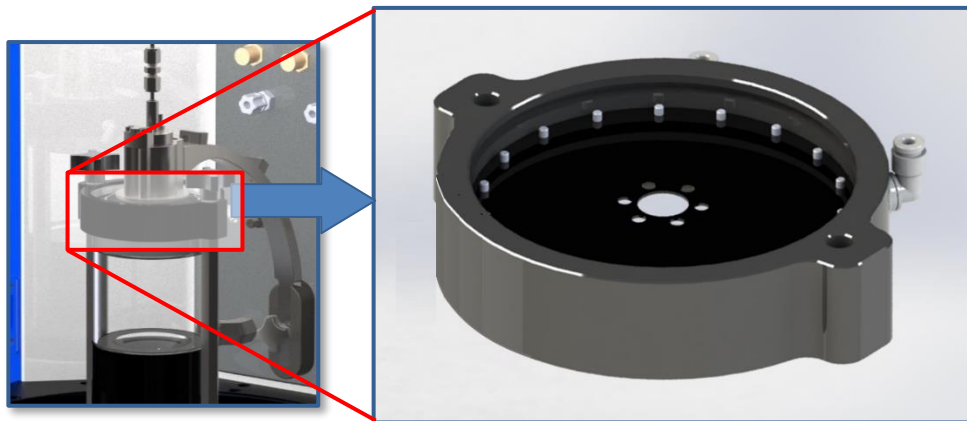

Figure 5-3: Vessel Top Holder and Nozzle Gasket
5.1.3 Figure 5-3 shows the Nozzle Vessel Top Holder and Nozzle Gasket.